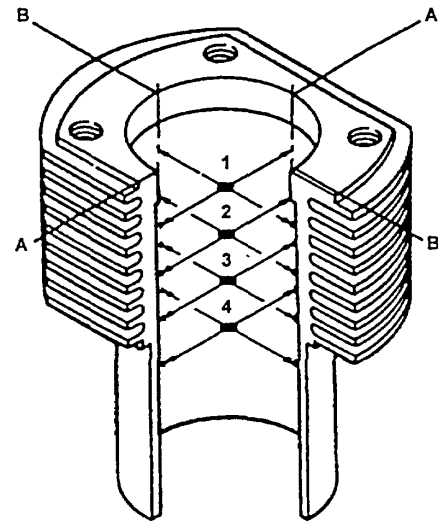

FIGURE 5-37. CYLINDER MEASUREMENT POINTS
h. Measure cylinder bore at (Figure 5-37), levels 1 to 4 of engine centerline axis "A" and crossline axis "B". A normal or new bore diameter should be 2.8740 to 2.8744 inches (73.00 to 73.01 mm) If wear limits for a normal bore cylinder have been reached. or exceeded, replace cylinder and piston. If measurements on axis "A" and "B" are different, cylinder is out of round or has high spots. Replace cylinder and piston Refer to Table 5-3